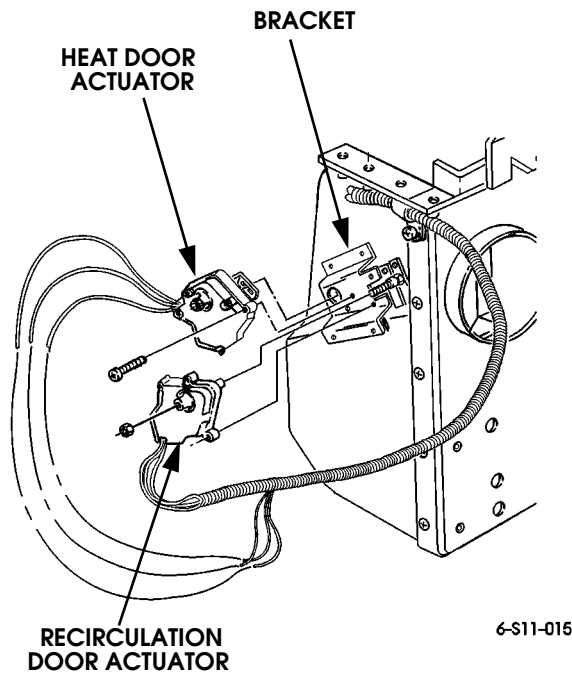

Figure 11-33: Heat Door and Recirculation Door Actuator Locations
2. Disconnect electrical connection (Figure 11-33).
2. Connect electrical connector (Figure 11-33).